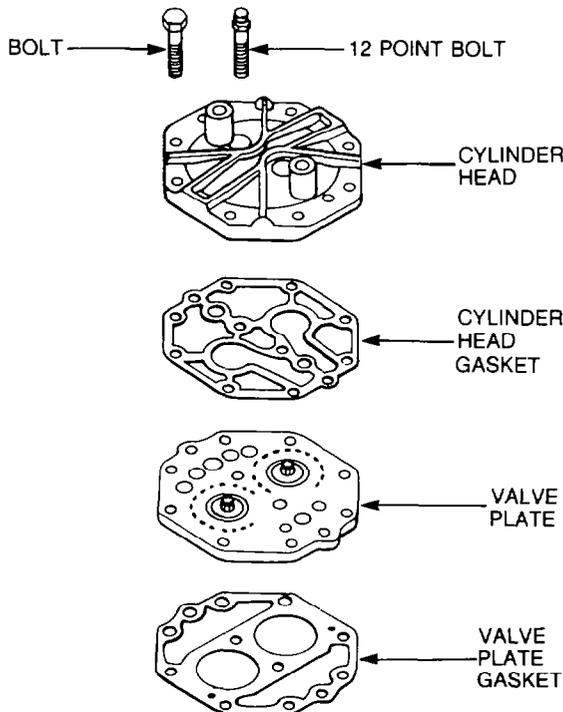

Figure 335 — Cylinder Head and Valve Plate — Removal
- e. Remove the eight bolts and the four 12-point bolts securing the cylinder head and valve plate to the crankcase, then remove the head and valve plate by gently tapping with a soft-faced hammer (see Fig. 335). Remove and discard the cylinder head and valve plate gaskets.